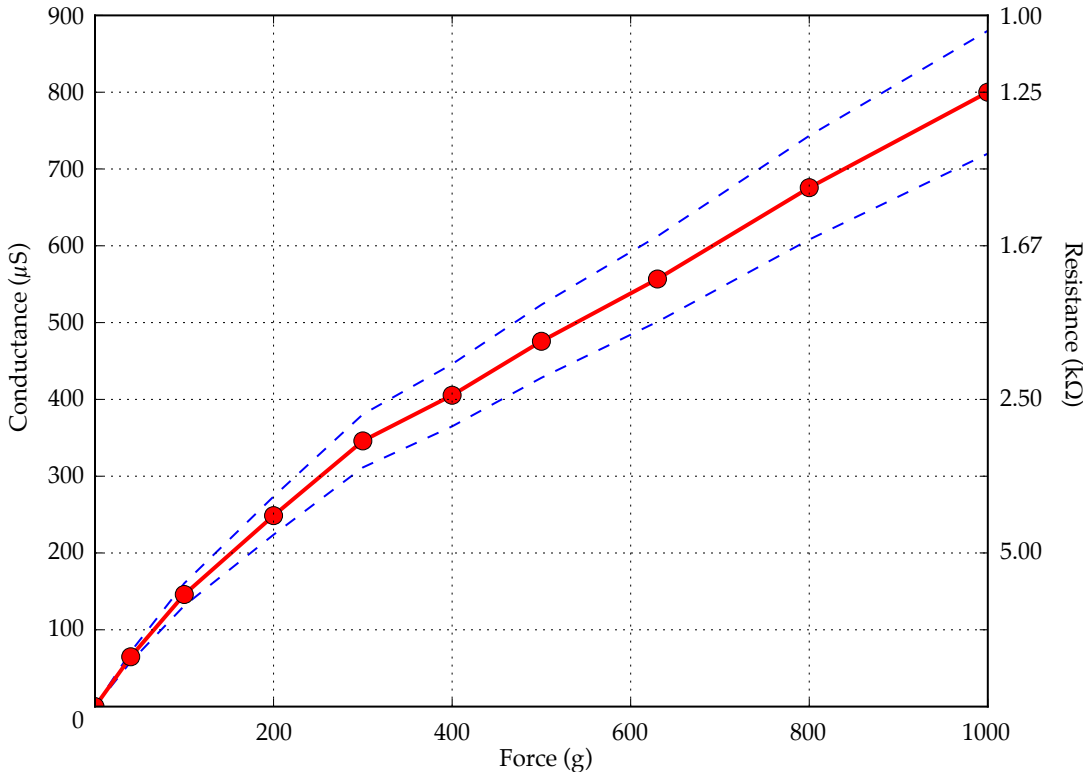
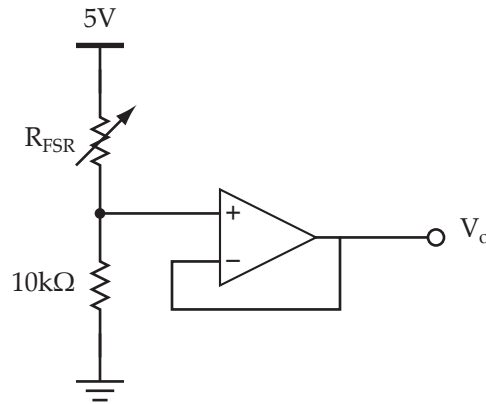

Figure 1: FSR response curve
Figure 2: FSR amplifier 1
The graph in figure 1 is the force/resistance curve of the Interlink FSR that is included in your lab kit. The right axis is in kilo-ohms, and the left axis is in units of conductance (microsiemens.) Note that the right-hand scale is not linear, as the FSR travels through many decades of resistance over the 1 kg force range.
1. Using the force/resistance relationship from figure 1, plot V_0 against applied force for the circuit in figure 2.